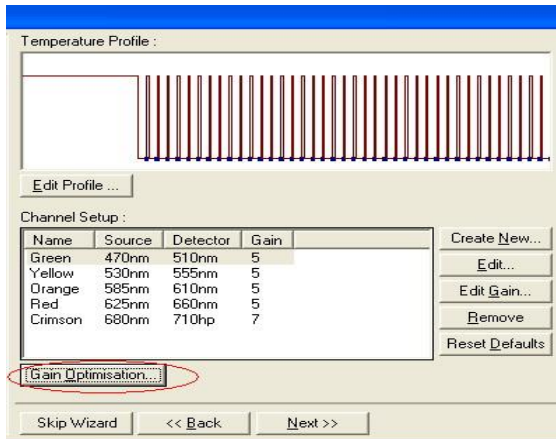
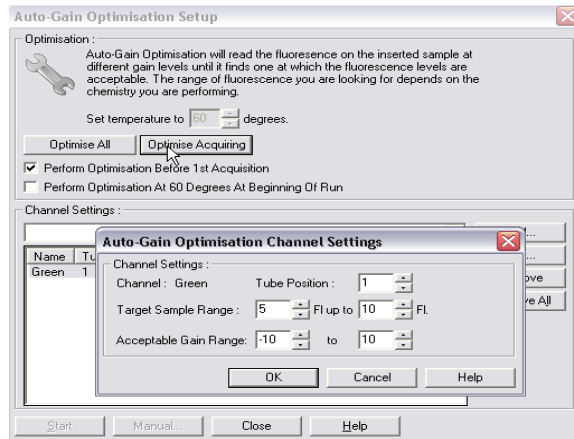
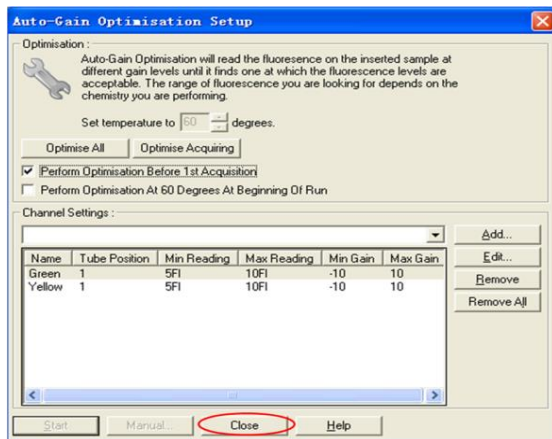

Figure 1
Figure 2
Figure 3
- Prior to the operation, please set up the PCR program by the following steps: ①select “Gain Optimization”, the “Auto Gain
“Optimization Setup” window will open (see Figure 1); ②Click “Perform Calibration Before 1st Acquisition” and “Optimize Acquiring” (see Figure 2). ③Click “OK”, then click “Close” to continue (see Figure 3).